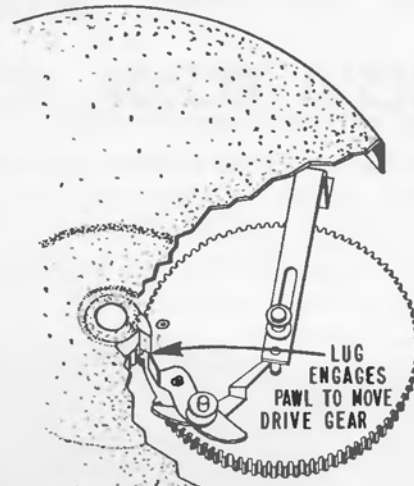

Figure 2B. Drive Gear Position During Change Cycle.
This rapid movement only occurs when the trip slider (36) is moved rapidly, by the tone arm, as the needle enters the trip grooves of the record. The gear engagement pawl (33) then moves in front of and engages the lug on the turntable hub. This causes the drive gear (30) to be rotated far enough so that the teeth on the drive gear will engage the teeth on the turntable hub, starting the change cycle. See figure 2B.